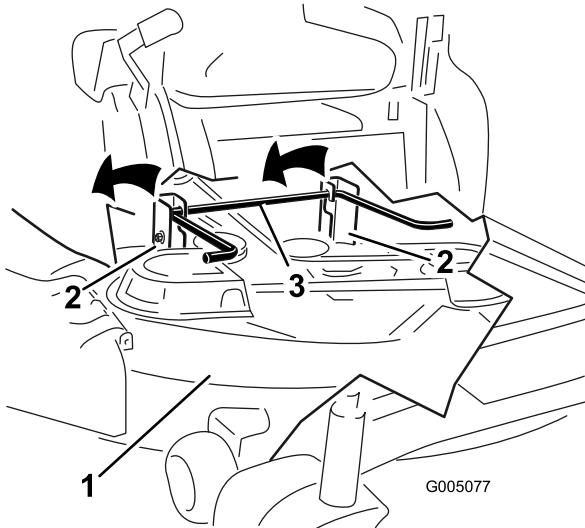

Figure 56
- Lift the mower deck and hanger brackets clear of the rear lift rod and lower the mower carefully to the ground (Figure 56).
5. Lift the rear of the mower deck and guide the hanger brackets over the rear lift rod (Figure 56).